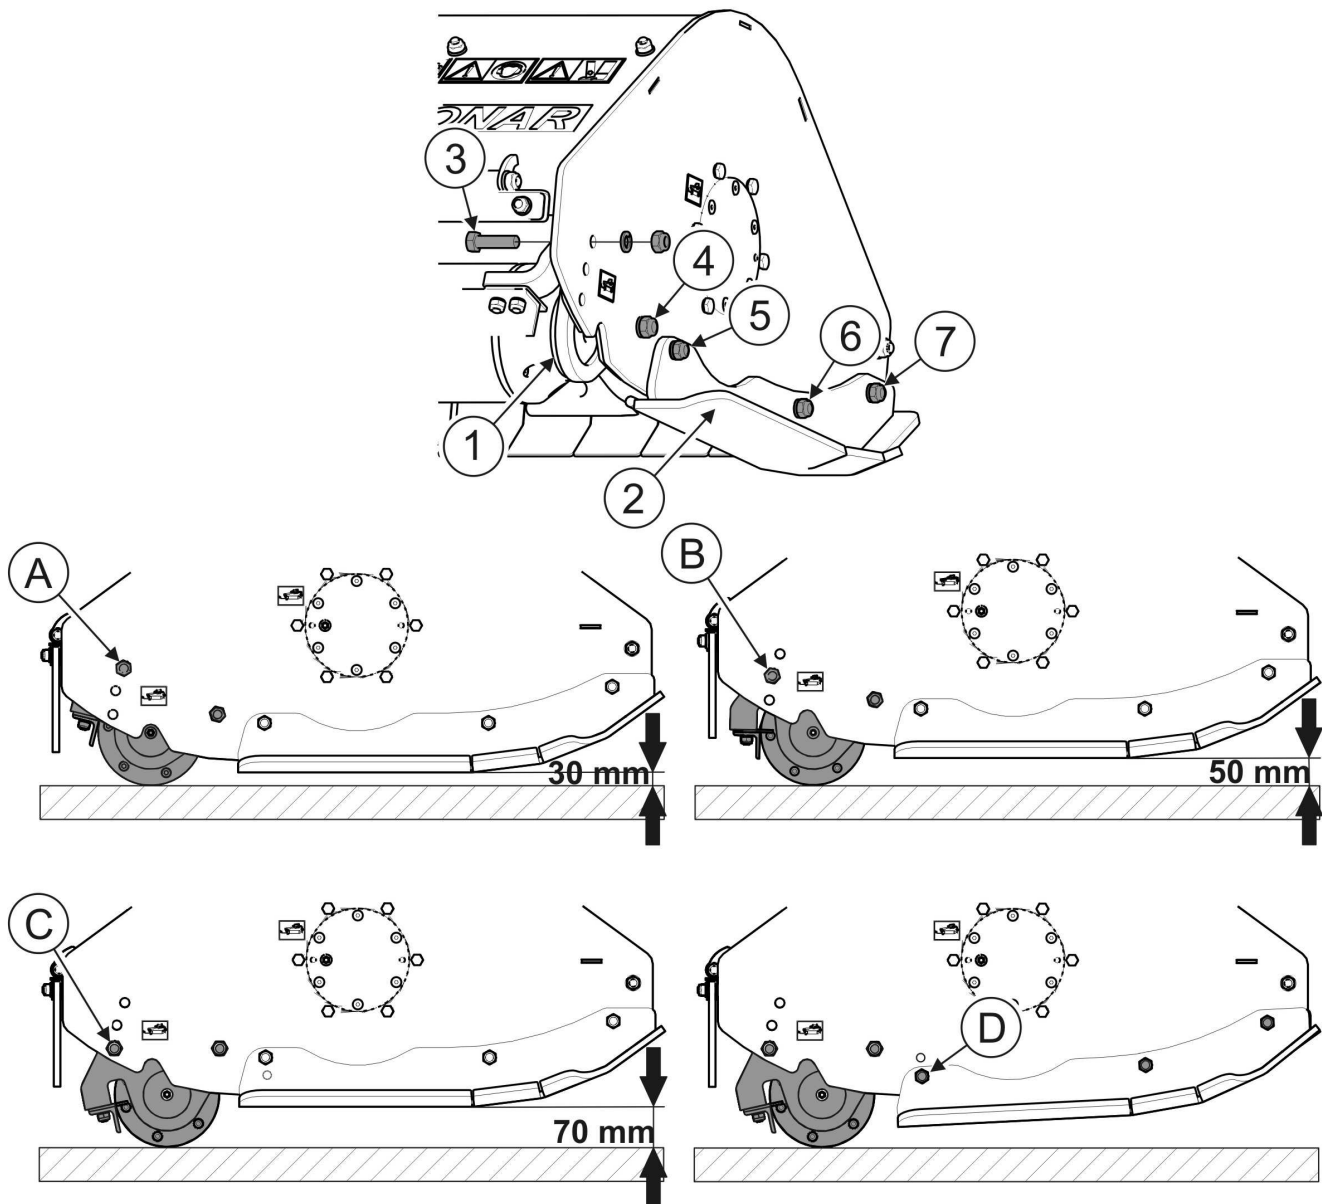

FIG. 4.5 Setting cutting height of the cutting head.
- the cutting unit of the cutting head should be supported freely on the ground, on the tracking shaft. Slides should not touch the ground and the complete cutting unit should be set in parallel to the ground (FIGURE 4.5).
(1)- tracking shaft; (2)- slide; (3)- tracking shaft fixing bolt; (4)- nut; (5)- slide fixing bolt; (6)- nut; (7)- nut; (A)- position of the bolt setting cutting height of 30 mm; (B)- position of the bolt setting cutting height of 50 mm; (C)- position of the bolt setting cutting height of 70 mm; (D)- position of the bolt setting slide angle.
Adjust the multifunction arm in such a way as to ensure that the mower slides are set in parallel to the ground. Cutting height can be modified by changing the tracking shaft (1) position with regard to the mower housing. In order to do this (FIGURE 4.5):
- loosen nuts (4) of bolts on both sides of the tracking shaft (1) on which the tracking shaft will be turned;
- undo nuts and remove fixing bolts (3) on both sides of the tracking shaft
- insert fixing bolts (3) into appropriate openings and screw on the nuts;
- tighten nuts (4) of the bolt on which the tracking shaft was turned, on both sides of the tracking shaft.
- loosen nuts (6) and (7) of the bolts securing the slide;
- unscrew nut and take out bolt (5) fixing the slide;
- turn the slide so as to ensure that the slide opening aligns with the lower opening in the side of the cutting head housing (D) (FIGURE 4.5);
- insert fixing bolt (5) into the aligned openings and screw on the nut
- tighten nuts (6) and (7) of the bolts securing the slide.